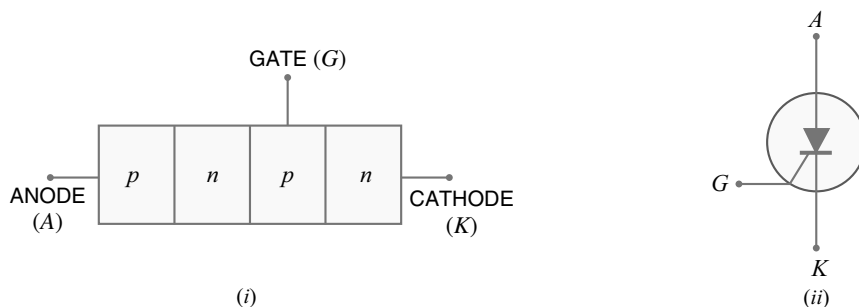

Fig. 18.1
**Constructional details.** When a  $pn$  junction is added to a junction transistor, the resulting three  $pn$  junction device is called a silicon controlled rectifier. Fig. 18.1 (i) shows its construction. It is clear that it is essentially an ordinary rectifier ( $pn$ ) and a junction transistor ( $nnp$ ) combined in one unit to form  $pnpn$  device. Three terminals are taken; one from the outer  $p$ -type material called *anode*  $A$ , second from the outer  $n$ -type material called *cathode*  $K$  and the third from the base of transistor section and is called *gate*  $G$ . In the normal operating conditions of SCR, anode is held at high positive potential *w.r.t.* cathode and gate at small positive potential *w.r.t.* cathode. Fig. 18.1 (ii) shows the symbol of SCR.